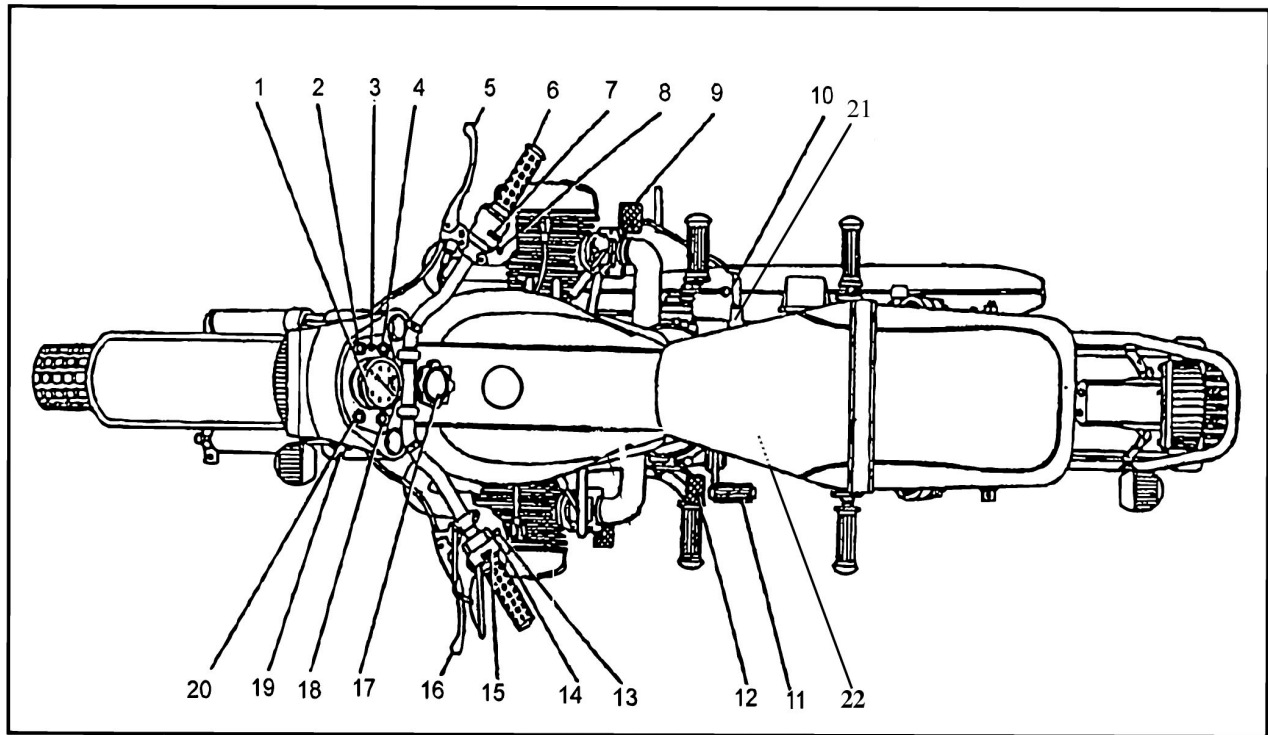

Figure 1. Controls and Instrumentation
Clutch control lever (Fig.1, #16) . When the clutch lever is squeezed, the engine is disengaged from the gearbox. When the lever is released, the engine is engaged to the gearbox.
Front brake control lever (Fig.1, #5). When the lever is squeezed, the front wheel brake is actuated. The front brake should be used together with rear brake.
Kick lever (Fig.1, #11) is designed to start the engine. On pressing the lever the crankshaft of the engine is actuated through the gearbox. The lever is returned to its initial position by the spring inside the gearbox. *Note: this is a backup to the electric starter.*
Gear shift foot pedal (Fig.1, #12) is a two-arm type. When the front arm is pressed, shifting from high to lower gears takes place. When the rear arm is pressed, shifting from low to higher gears takes place. Since the heel-toe shift lever is short-coupled, you will find it easier to shift up if you rotate the heel of your left foot in towards the rear arm before stepping on it with your heel. The neutral position is fixed between the I and II gears.
Reverse gear engagement lever (Fig.1, #10) Forward for neutral and/or forward running and back for reverse. **The reverse gear may be engaged only after the motorcycle is completely stopped!**
The **rear brake pedal** (Fig.1, #9) applies the rear wheel and sidecar wheel brakes simultaneously.
Ignition Switch (Fig.1, # 19) has three fixed positions of the key. The position and switching diagram of the ignition locks are shown above.
Speedometer is on the dash board, with trip (Note-Bavarian has no trip odometer) and total odometer. The trip odometer is reset to zero by rotating push-button (Fig.1, # 3) counter-clockwise. Note that the odometer reads in kilometers not miles.
- (Fig. 1, # 2) — turn indicator pilot lamp, (orange)
- (Fig. 1, # 4) — gearbox neutral and reverse gear engagement, (green)
- (Fig. 1, # 18) — head lamp high beam indicator, (dark blue)
- (Fig. 1, # 20) — alternator fault indicator lamp, (red)
Throttle Control (Fig.1, # 6) is on the right handlebar. Turning the twist grip counterclockwise increases engine speed.
Engine cutoff switch (Fig.1, # 7) has two positions, ignition off (up), and ignition on (down).
Low and high beam light switch (Fig.1, # 15), **turn indicator switch** (Fig.1, #13) and **horn push-button** (Fig.1, # 14) are combined in one unit on the left-hand handle bar control housing.
Master battery switch (Fig.1, # 21) is under the seat.
Electric Start Button (Fig. 1, # 8) is located on the right-hand twist grip, below the kill switch.
The **steering damper** absorbs lateral kicks on the front wheel. Turning tightening bolt (Fig.1, # 17) clockwise increases friction. This can be used while riding over bad roads.
Parking brake (Fig. 1, # 22) is located on the right side of the motorcycle next to the foot peg. It is engaged by applying the foot brake pedal fully and turning the handle and pushing it down to hold the foot brake lever in the applied position.
1. Turn on the ignition and depress the kick lever (see Fig. 1) about 1/4 of its travel (enough to firmly get the ball of your foot on the lever) with either your left foot or right foot, depending on what position is most comfortable with your right hand on the throttle. Take up the slack in the throttle until you can feel some slight resistance from the return springs in the carburetors. However, do not advance the throttle, since this may flood the engine.